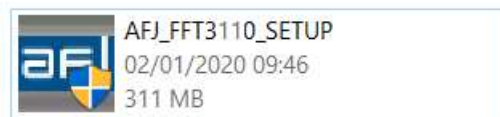

Fig. C.8 – Setup file for client software
STEP 2 – Insert USB-stick in an USB port, from Windows Explorer, locate the “FFT 3110 Receiver (FFT 3100 Receiver)/Operating SW/AFJ_FFT 3110ClientSetup_XYZ_20XY (AFJ_FFT 3100ClientSetup_XYZ_20XY)” folder on your AFJ USB-stick and double click on “Setup” file (Fig. C.8).